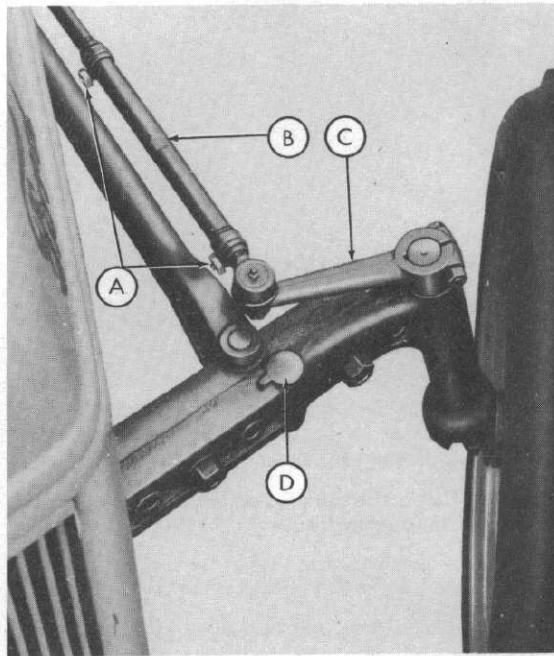

Fig. 11
Step 1—Loosen the turnbuckle nuts (A-Figure 11).
Step 2—Turn the turnbuckle (B-Figure 11) to shorten or lengthen the drag links.
NOTE: The wheels may be aligned approximately by adjusting the drag links until the spindle arms (C-Figure 11) are centered over the axle reference marks (D-Figure 11).